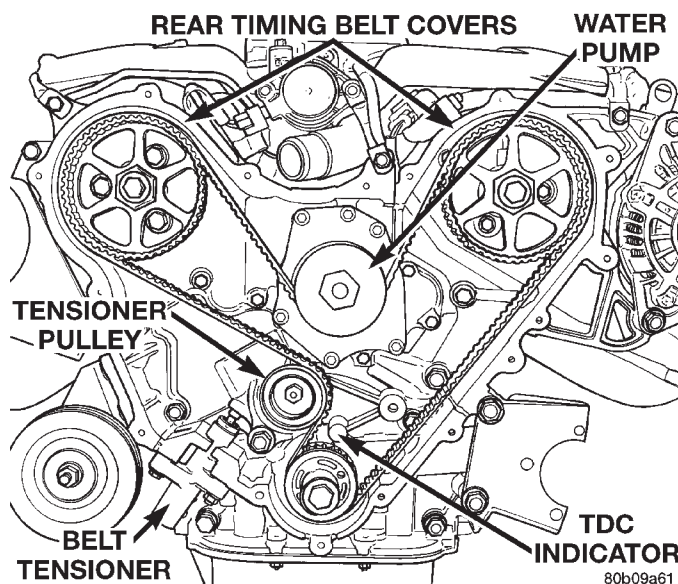

Fig. 69 Timing Belt System
(10) Remove the timing belt tensioner (Fig. 69) and remove timing belt.